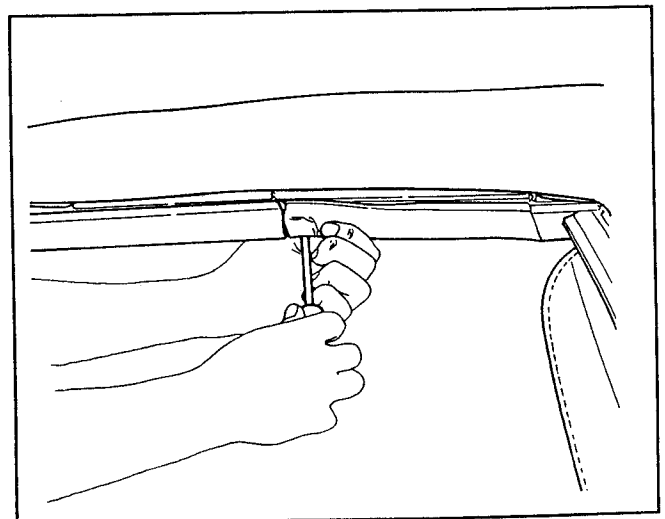

Figure 46. Rear Side Retainer Adjustment
2. Move the retainer in, out, up, or down to obtain the necessary seal pressure. Keep the weatherstrip parallel to the glass edge (Fig. 46).